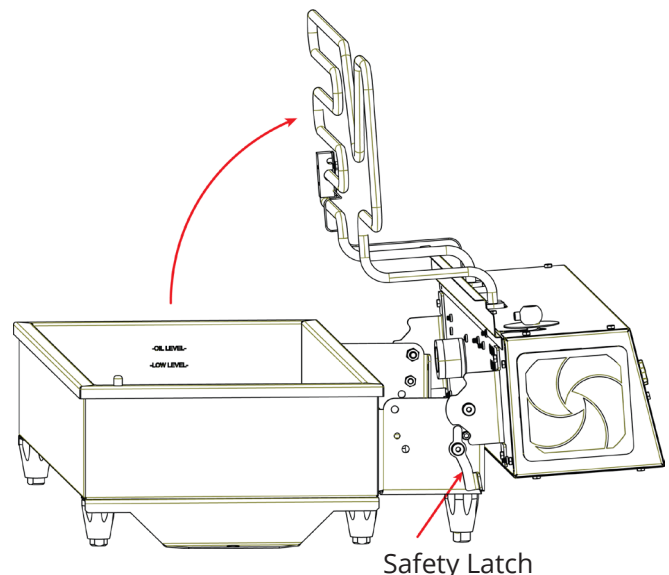

Figure 13
12. To clean the elements, tilt the heater head assembly back, raising the heating element out of the kettle. See Figure 13.
14. Lift the kettle out of the fryer case. The safety latch on the outfeed side will automatically engage, preventing the elements from falling forward. See Figure 13.